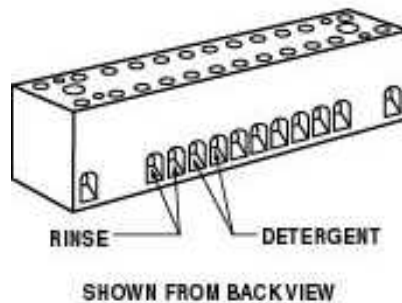

Figure 2.2.3a
2. With the machine's power "OFF", connect your detergent and rinse dispenser wires to the power block supplied and labeled ("DISPENSER 110V - 3 AMPS MAX") inside the control panel drawer. See Figures 2.2.3a, and Figure 2.2.3c. Connect detergent wires to red terminals and rinse wires to blue terminals.